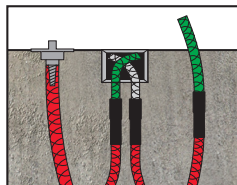

fig. 5
- For injection operations, the injection pump is connected to the PVC connection hose vent ends which are housed in the junction boxes. (**fig. 5, left**)
- SikaFuko® ECO-1 assemblage can be injected through individual injection ports or packers (**fig. 5, right**) or via the PVC connection hose ends which are continued to junction boxes or elsewhere outside of the concrete. (**fig. 5, left/ centre**)